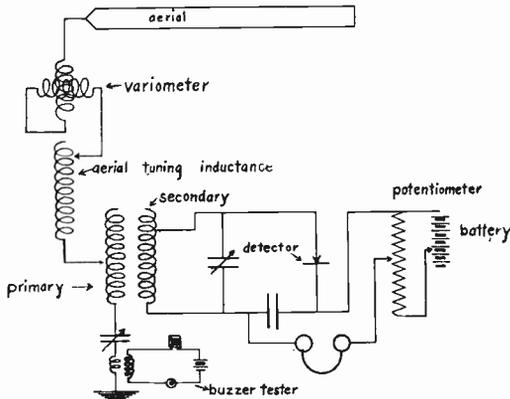

Fig. 60. — Inductively (or Magnetically) Coupled Receiver.
3. Inductively coupled receiver (Figure 60).